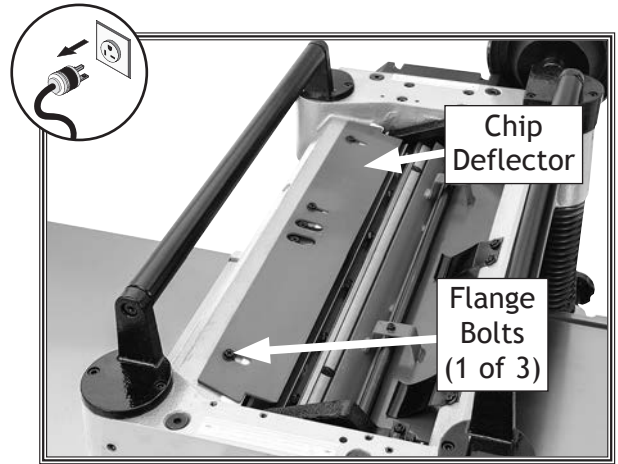

Figure 57. Example of chip deflector and mounting hardware.
3. Use cutterhead pulley to rotate cutterhead until a knife/insert reaches closest distance to chip deflector (see **Figure 57**), then measure distance between knife/insert and chip deflector.
4. If distance measured in **Step 3** is *not* equal to correct chip deflector gap setting, then loosen flange bolts (see **Figure 57**) that secure chip deflector and adjust gap to correct setting.